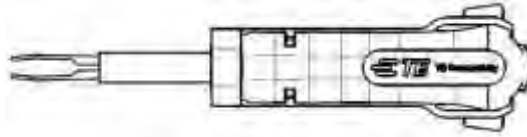

Figure 94
- b. Using contact extraction tool (Figure 94), carefully remove contacts from connector.